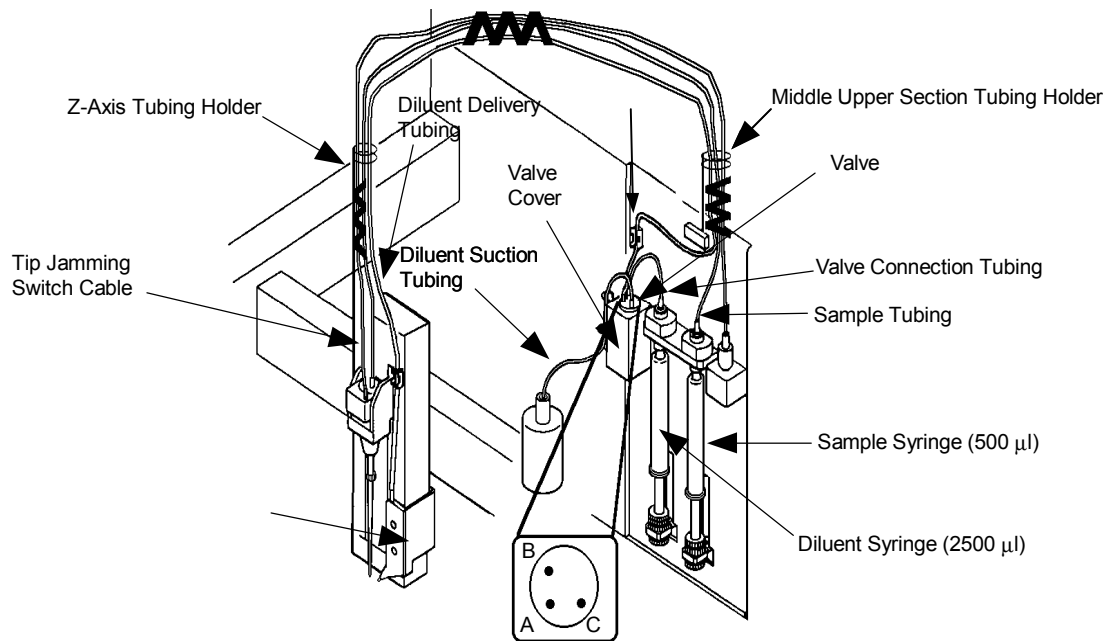

Figure 5-17. Tubing Locations
1. Remove the three tubes from the valve ports (refer to Figure 5-17).
Refer to Figure 5-17 for the following steps:
Refer to **Figure 5-17** for the following steps:
Refer to **Figure 5-17** for the following steps.
1. Extract the Diluent Delivery Tubing from the Diluent Nozzle Assembly (refer to **Figures 5-17** and 5-24).
1. Mount the Diluent Nozzle Holder Assembly to the Z-Axis Assembly using the two Diluent Nozzle Holder Mounting Screws (Refer to **Figures 5-17** and 5-24).